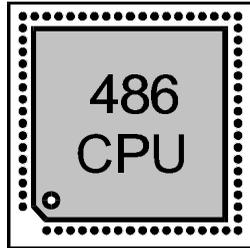

Figure 1: 486 CPU in a single socket.
- ◆ In most 486 computers, the original 486 CPU is in a 486 or OverDrive socket on the motherboard. You simply remove the existing processor from its socket and install the upgrade in its place. See Figure 1.